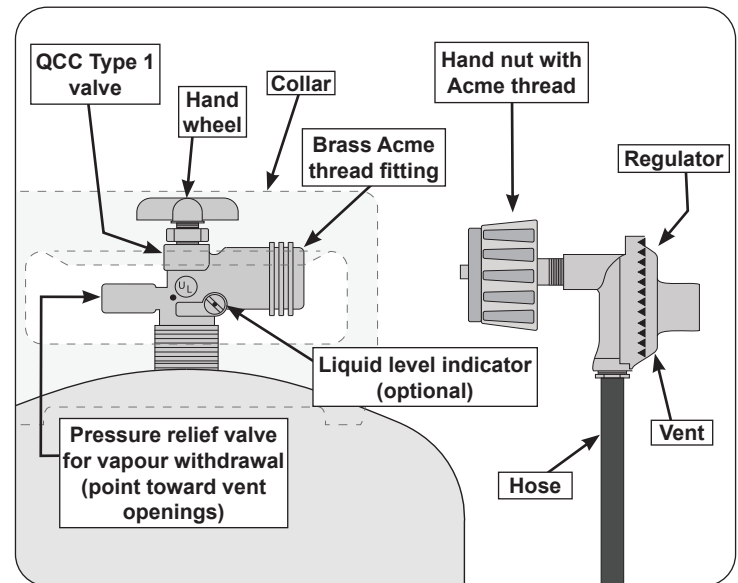

Fig. 7-1 Type I Acme thread coupler
- The cylinder used must include a collar to protect the cylinder valve. The cylinder supply system must be arranged for vapour withdrawal. See Fig. 7-1.
- When used with a cylinder, the gas supply system must be used with a pressure regulator. The pressure regulator and hose assembly (**not supplied**) used must match the specification for Type I by ANSI Z 21.58/CGA 1.6 and must comply with UL 144 as a part of the self-contained LP gas supply system (see Fig. 7-1).
To disconnect: Turn the hand nut counterclockwise until detached (Fig. 7-1).